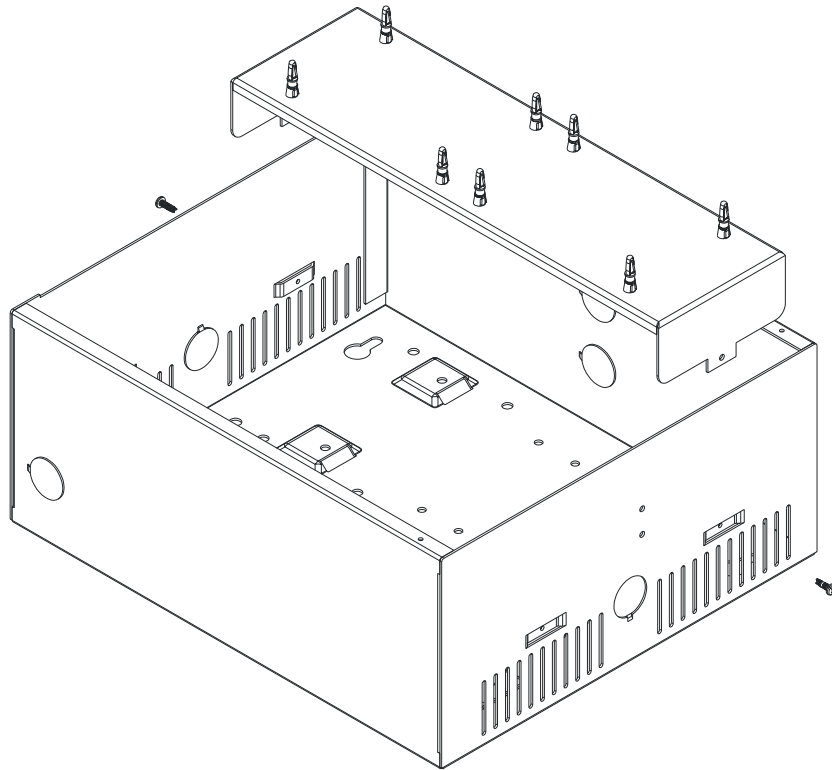

Figure 1 Mounting the HPB407EB onto an Electrical Enclosure.
3. Snap standoffs into the mounting bracket. (See Figure 1.)
4. Slide mounting bracket in desired location and secure with included screws. (See Figure 1.)